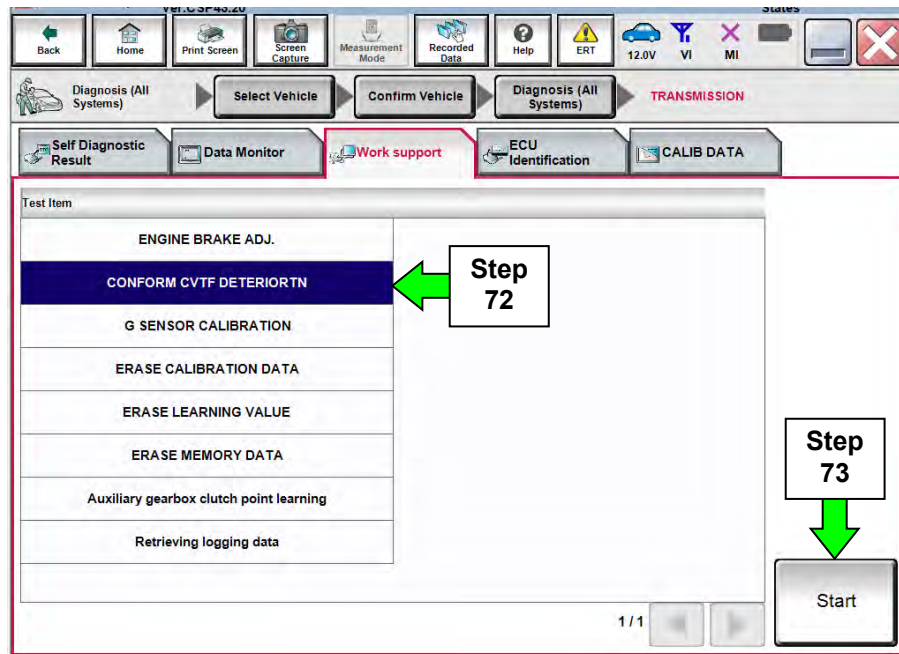

Figure 39
71. Navigate C-III plus to the screen shown in Figure 39.